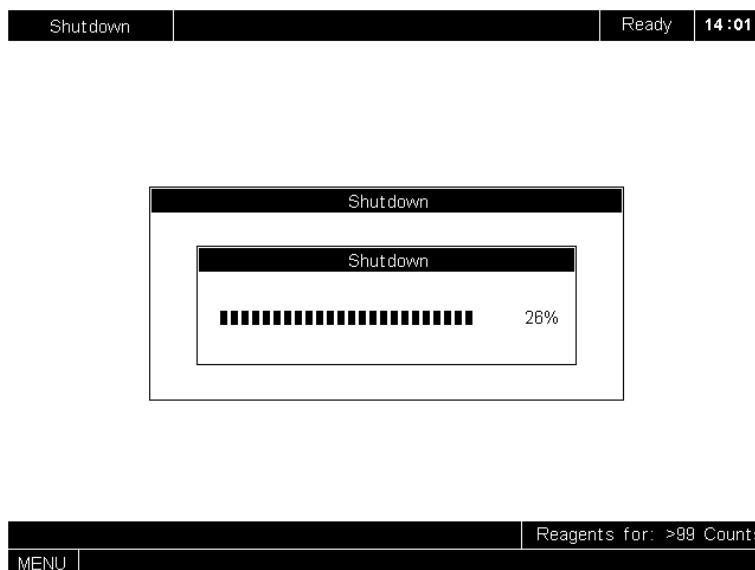

Figure 3-19 Count down to turn off the analyzer
- Present the E-Z cleanser to the sample probe and press the [START] key to aspirate 1.6mL cleanser. The screen then displays the count down to turn off the analyzer, as Figure 3-19 shows.